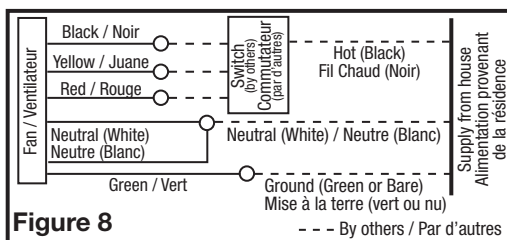

Figure 8
- From where you have chosen to access the fan's junction box, connect the White wire from the house to the two White wires from the fan. Connect one Hot (Black) wire from the wall switch to the Black wire from the fan (this is the fan control). Connect second Hot (Red) wire from the wall switch to the Red wire from the fan (this is the night light control). Connect the third Hot (Yellow) wire from the wall switch to the Yellow wire from the fan (this is the main light control). Connect the ground wire (green or bare copper) from the house to the Green wire from the fan (**Figure 8**). Use approved methods for all connections.